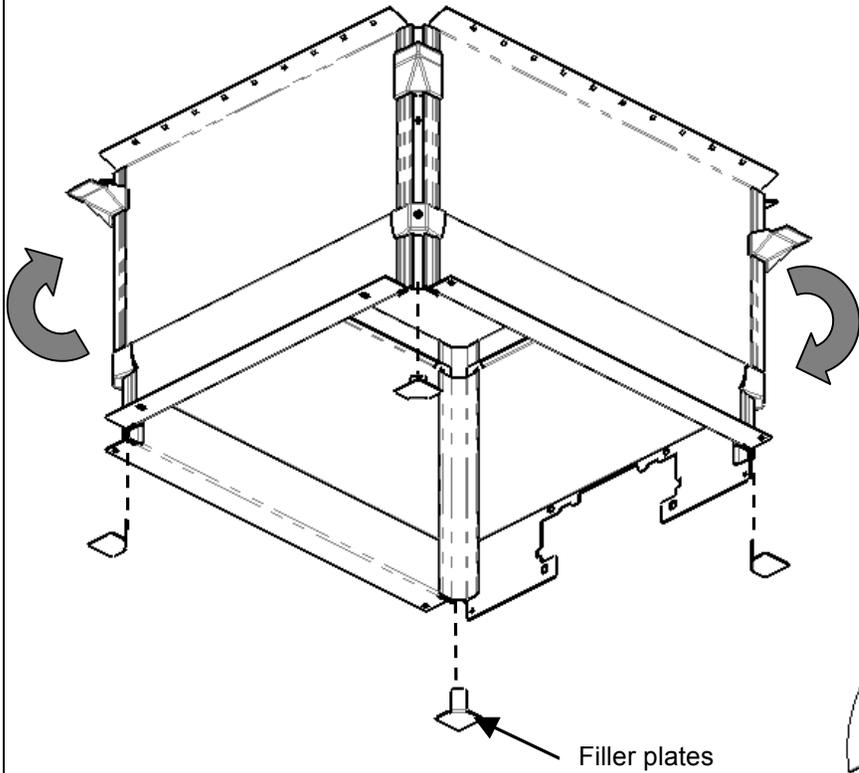

Fig. 7
11. Turn over the VED assembly. (Fig. 7)
14. Slide the filler plates onto the four corners of lower duct (Fig. 7&10).